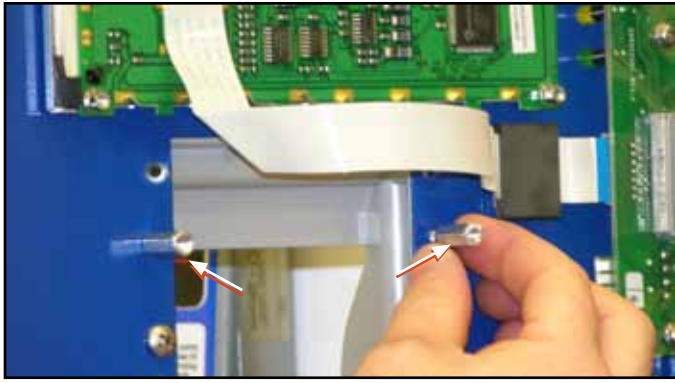

Figure 4: Install Stand-offs
10. Install the 2 stand-offs on the studs located next to the printer opening (Figure 4).